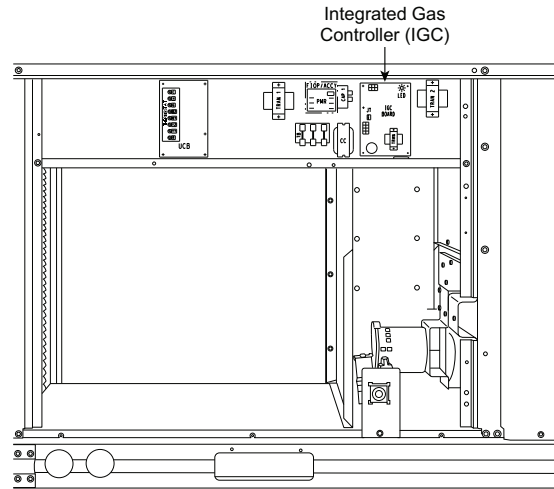
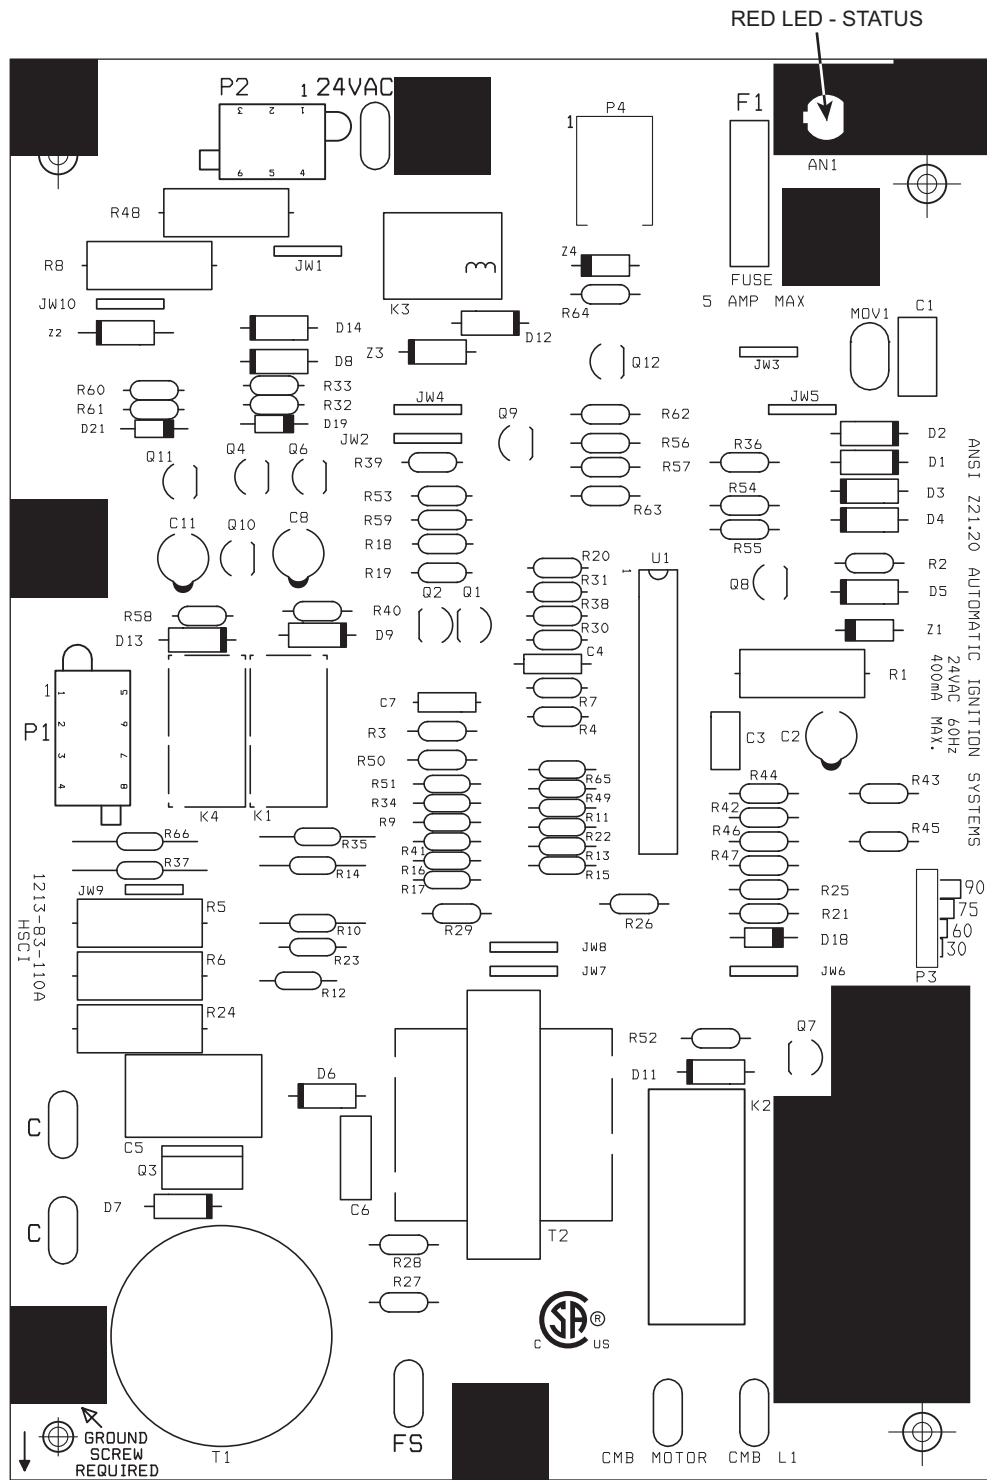

Fig. 59 — Unit Control Box/IGC Location
Fig. 62 — Integrated Gas Control (IGC) Board
8. Remove igniter wires and sensor wires at the Integrated Gas Unit Controller (IGC). (See Fig. 59.)
Unit is equipped with a direct spark ignition 100% lockout system. The Integrated Gas Unit Controller (IGC) is located in the control box (see Fig. 59). The IGC contains a self-diagnostic LED (light-emitting diode). A single LED (see Fig. 62) on the